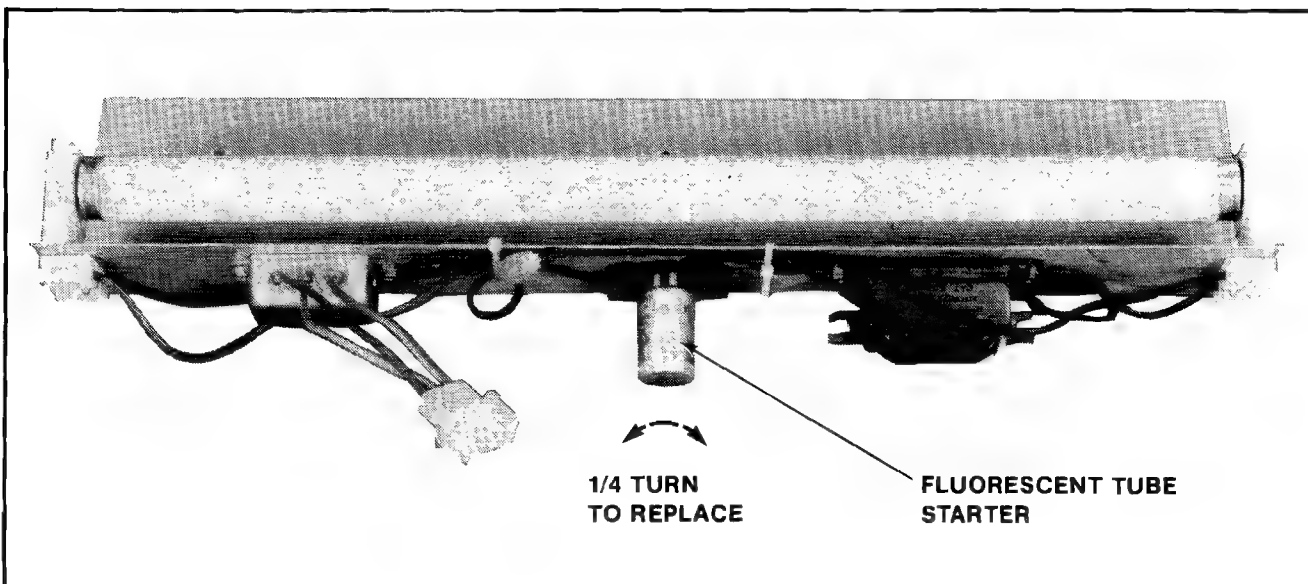

Figure 2-55 Replacing the Fluorescent Tube Starter - Upright
- ☐ Replacing the fluorescent light tube starter. See Figure 2-55.